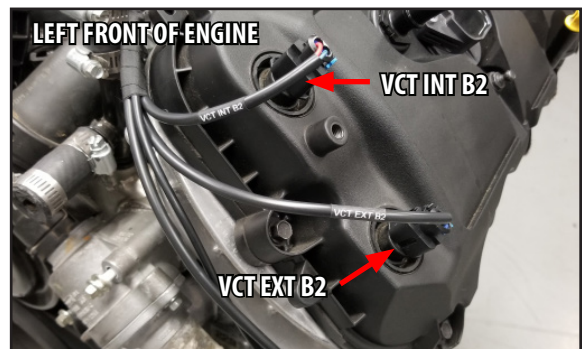

Fig. 4
- ❑ 6.4 VCT Connect VCT Sensors located on the front of each bank. EXT always goes towards the exhaust manifold while INT always goes towards the intake manifold. (Fig. 4)